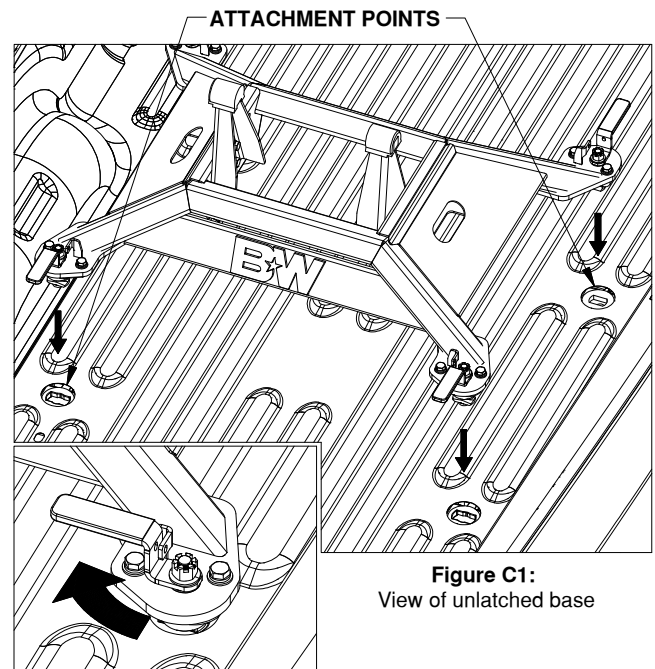

Figure C1:
1. **Place base.** The Companion base will mount to four attachment points in the truck bed. Remove the latch pins from each side of the base and rotate the handles out, see Figure C1. Position the base over the attachment points. Carefully lower it until the latch cams pass through the floor and the base rests flat against the top of the attachment points.